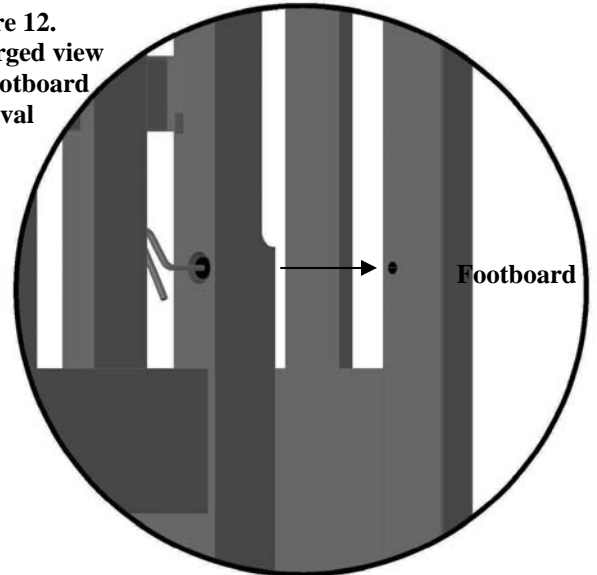

Figure 13.
- Loosen the (4) bolts attaching the Mattress Platform and remove the platform from the crib. Note the bolts will stay with the Mattress Platform. See Figure 13.